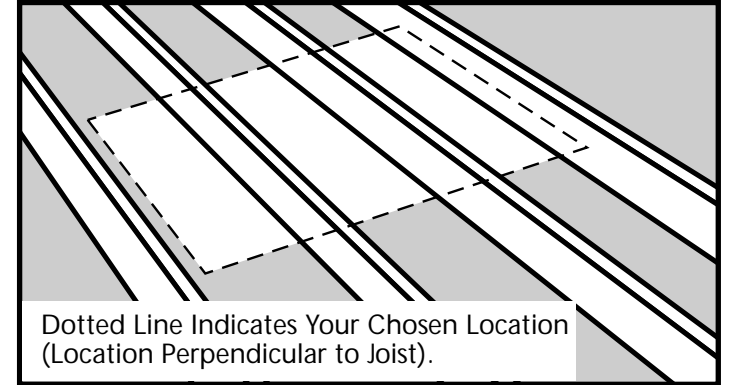

Figure 9
(B) If the chosen location is perpendicular to the joists, mark the rough opening width on top of the joists as shown in Figure 9. Do not cut the joist at this mark.